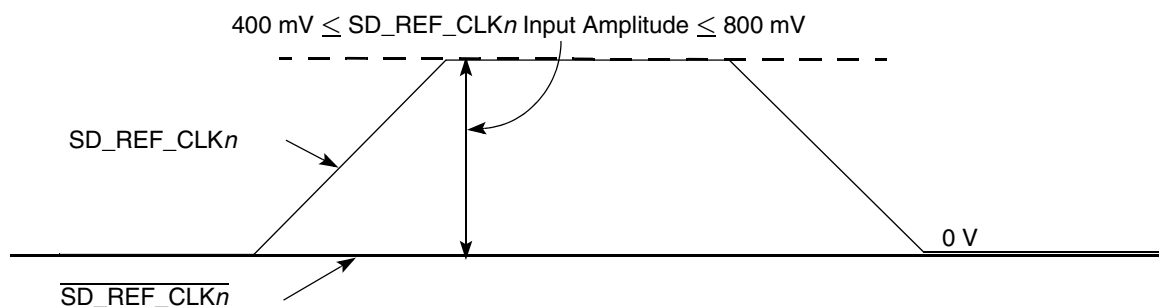

Figure 38. Single-Ended Reference Clock Input DC Requirements
- The $\overline{\text{SD_REF_CLK}}_n$ input average voltage must be between 200 and 400 mV. Figure 38 shows the SerDes reference clock input requirement for single-ended signaling mode.